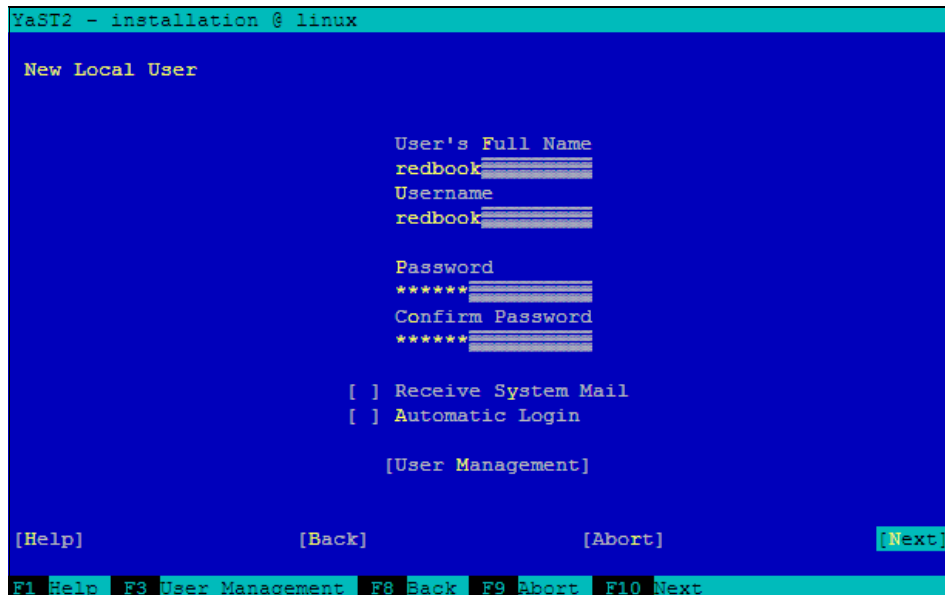

Figure 9-34 New Local User
25. Create a local user and select **[Next]**. See Figure 9-34 on page 392.